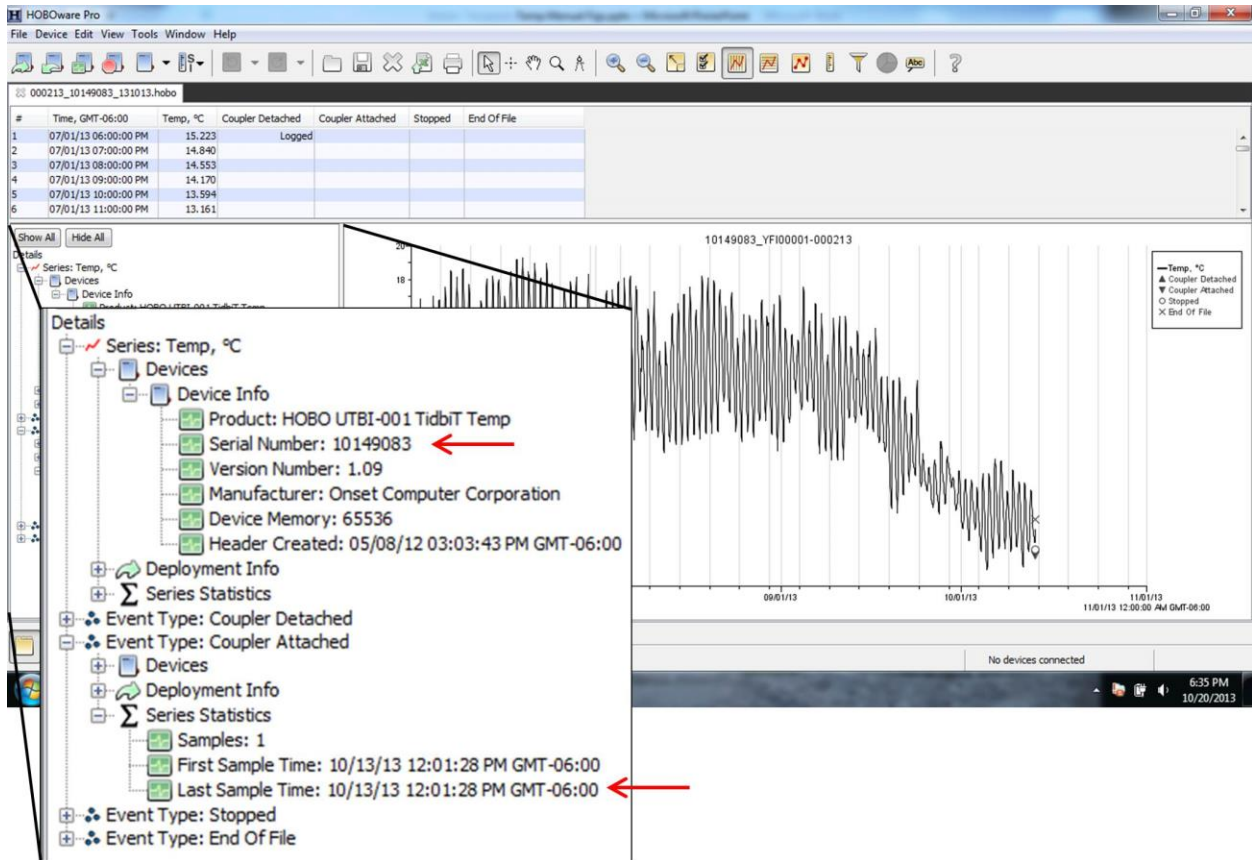

Figure 3. The manufacturer’s Logger ID\serial number and the last sample time are visible in the Details window of HOBOWare pro.
- c. Manufacturer's serial number / Logger ID is visible under the "Device Info" tab (Figure 3).